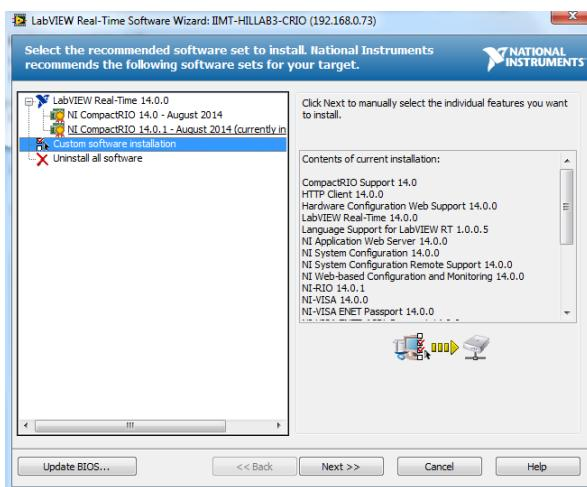

Figure 30: NI MAX - NI Veristand Engine installation 1
2. Now you choose Custom Software installation in the menu, see Figure 30